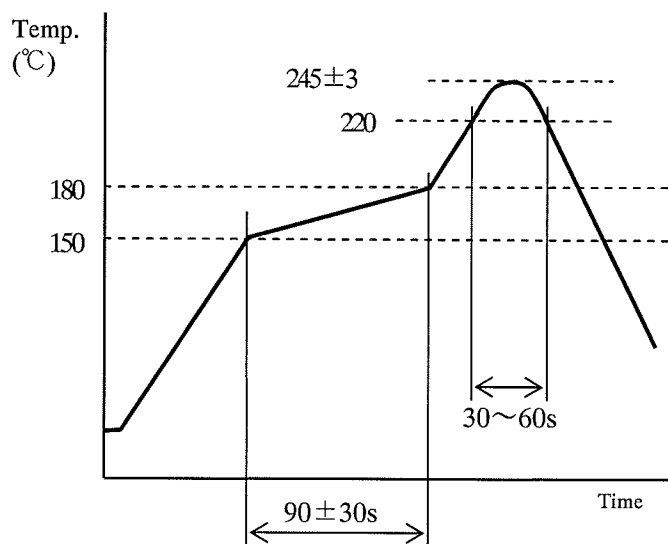

Figure 4
- 7-3. Reflow soldering profile : see Figure 4 (under atmospheric condition)